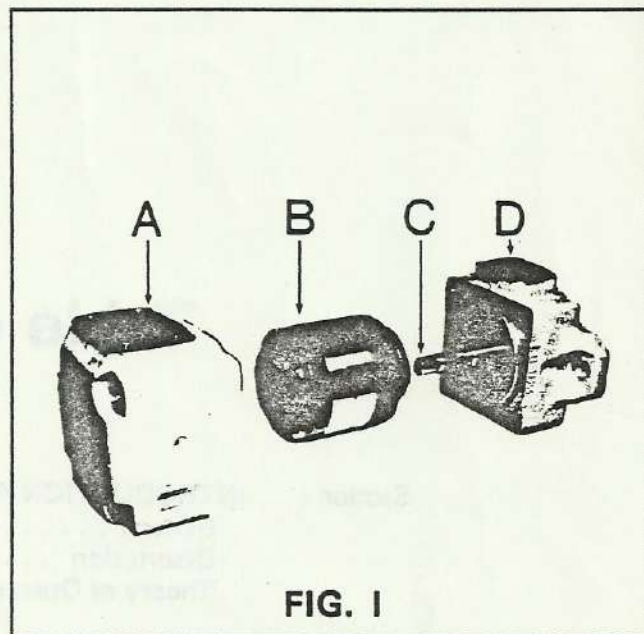

FIG. 1
The T5C and T5SC vane pumps consist of four basic components: (A) a housing or body, (B) a unitized cartridge consisting of; rotor, vanes, vane holdout pins, cam ring, bearing and port plates, (C) a shaft and bearing and (D) a mounting cap. (See Figure 1.)